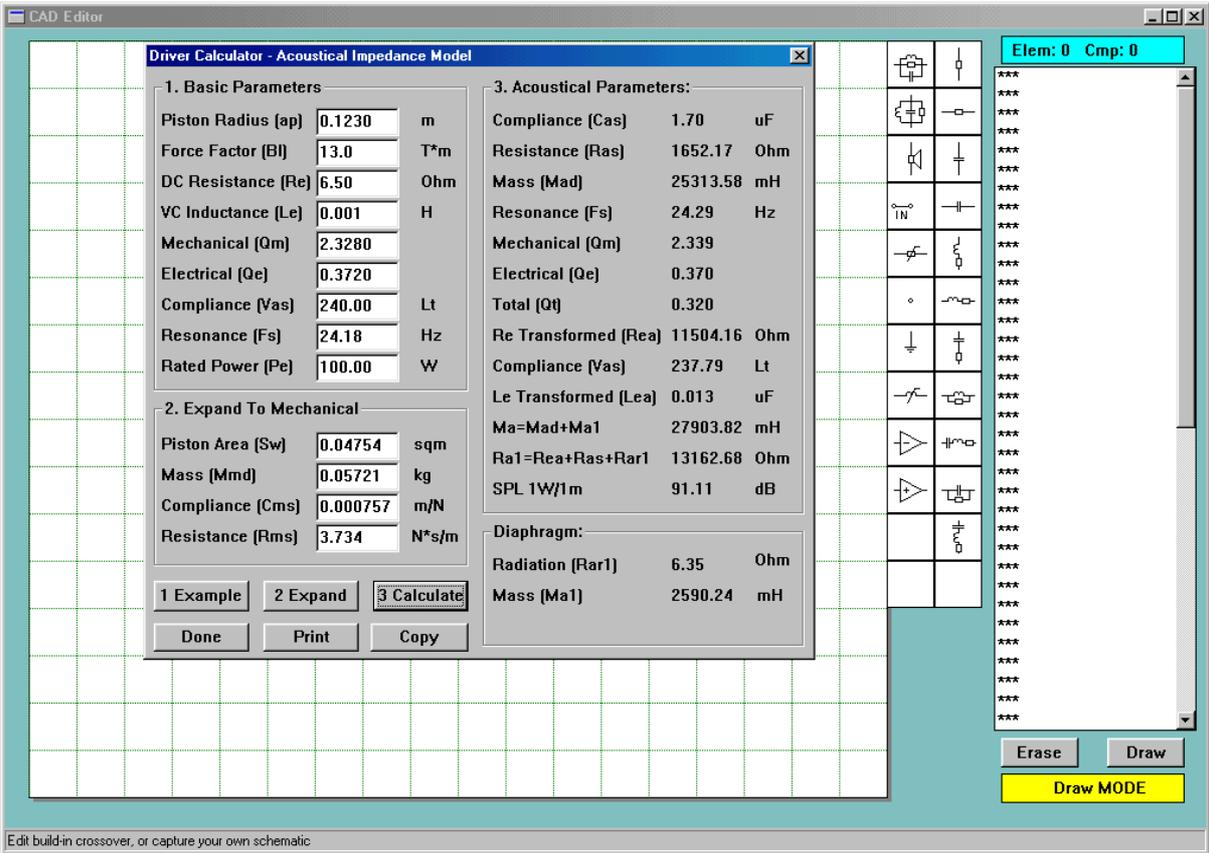

Fig 2.1 Driver Calculator
1. Driver Calculator (Fig2.1).